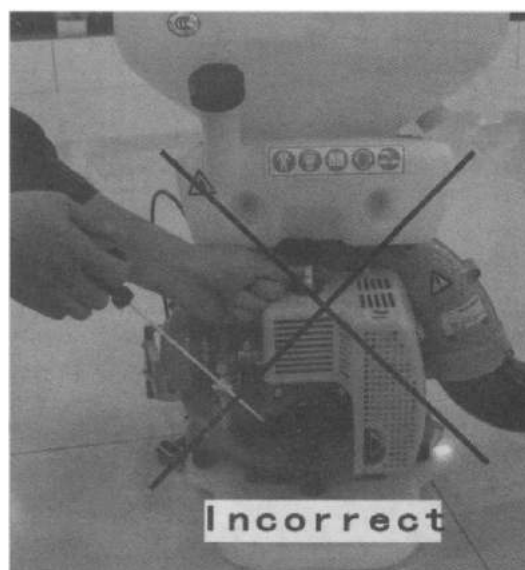

Fig 15
(1) Engine starts difficultly or can not start. Check if the sparking plug has sparked-over. Screw down the sparking plug, put the side pole to touch the cylinder. Pull the starter and watch between the poles of sparking plug whether there are sparks. Pull the starter carefully, do not touch the metal part of sparking plug for prevention of getting an electric shock as shown in Fig. 15.